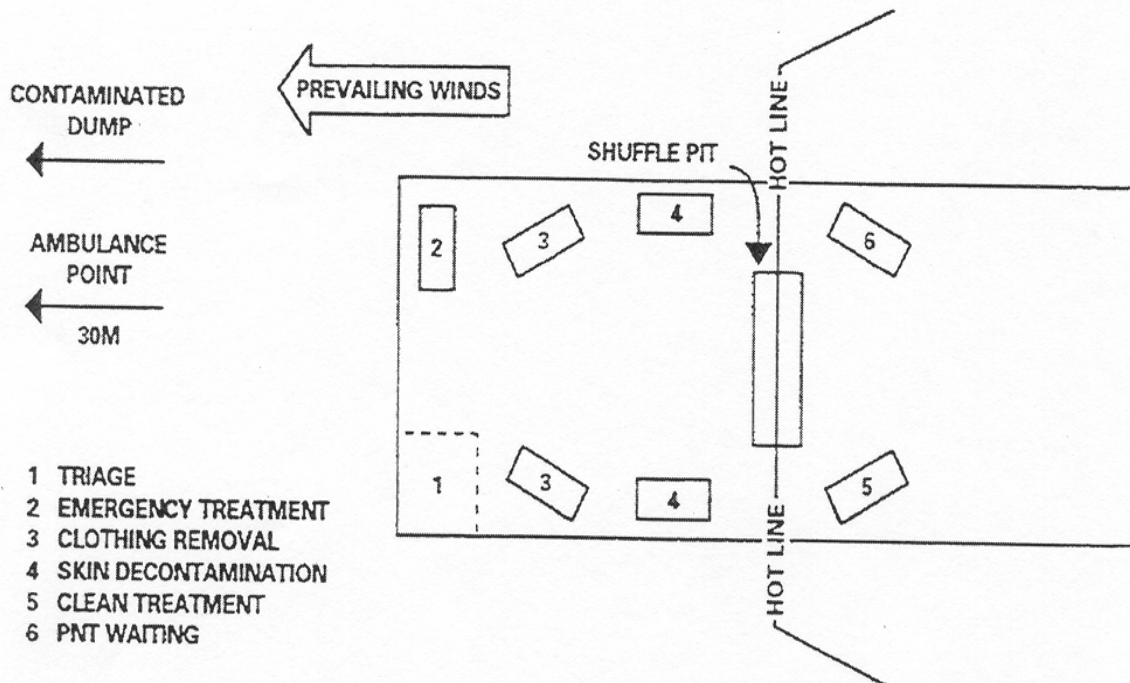

Figure 1-1. Painted decontamination area.
a. **Set Up the Decontamination Station in an Uncontaminated Area.** A fully operational decontamination station is set up in an uncontaminated area. The decontamination area is on the downwind side of the collective protective shelter (CPS) or other clean treatment area, and a hot line is clearly marked. A shuffle pit is constructed as the only point of access to the clean areas (see Figure 1-1).